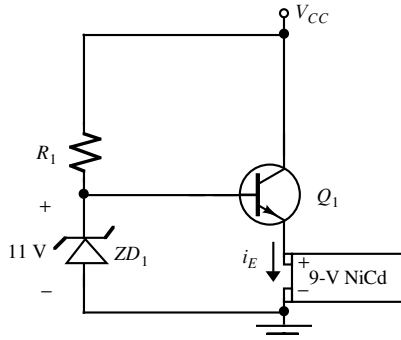

Figure P10.26
- 10.26** The circuit of Figure P10.26 is a variation of the battery charging circuit of Problem 10.25. Analyze the operation of the circuit and explain how this circuit will provide a decreasing charging current (taper current cycle) until the NiCd battery is fully charged (10.4 V—see note in Example 10.5). Choose appropriate values of V_{CC} and R_1 that would result in a practical design. Use standard resistor values.